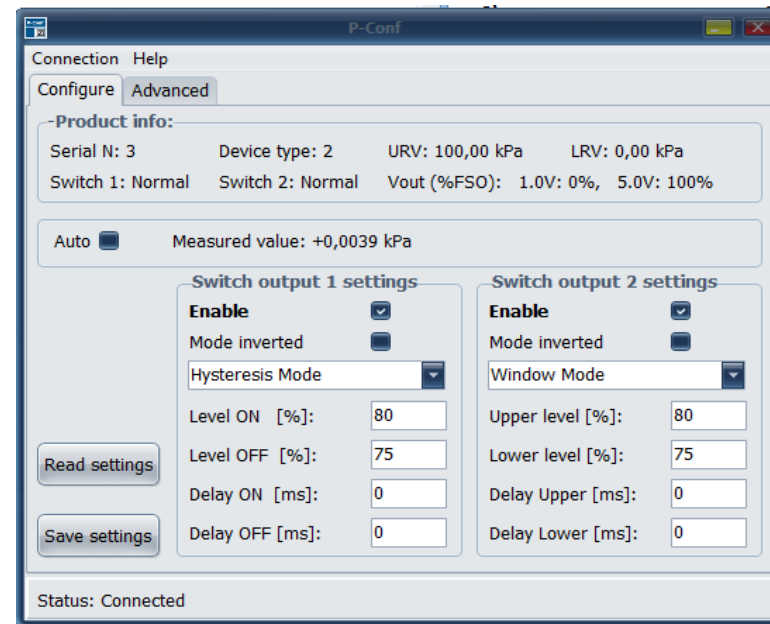
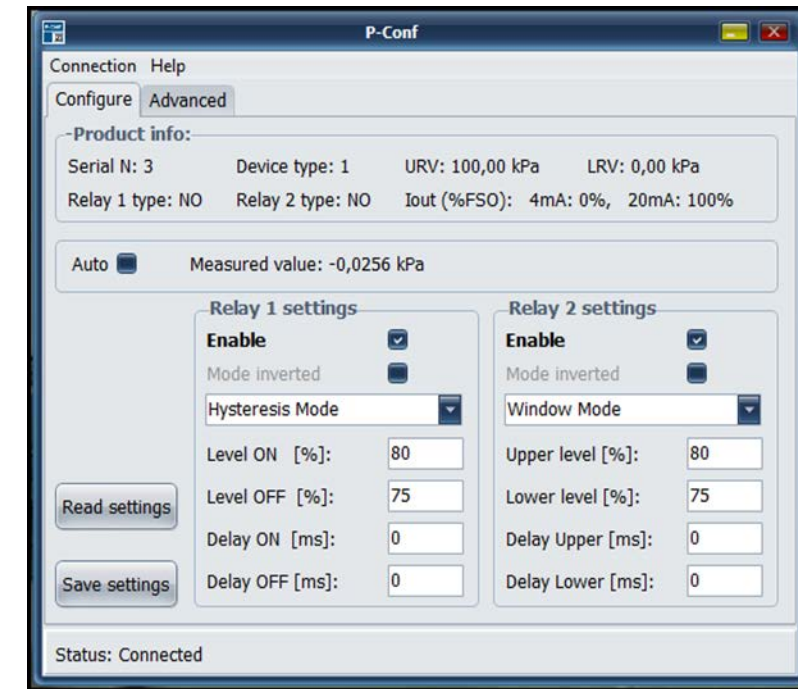

Figure 3 - Configuration tab, models 3410p, 3420p
Figure 4 - Configuration tab, models 3410r, 3420r
3) select "Connection" - "Connect"; successful connection brings up a window with configurable settings (Figures 3 or 4).
With Enable checked, sections "Switch output 1 (2) settings" (Figure 3) or "Relay 1/2 Settings" (Figure 4) allow setting basic parameters for each switch, depending on the selected output operating mode: hysteresis, window or pulse (Table 1).